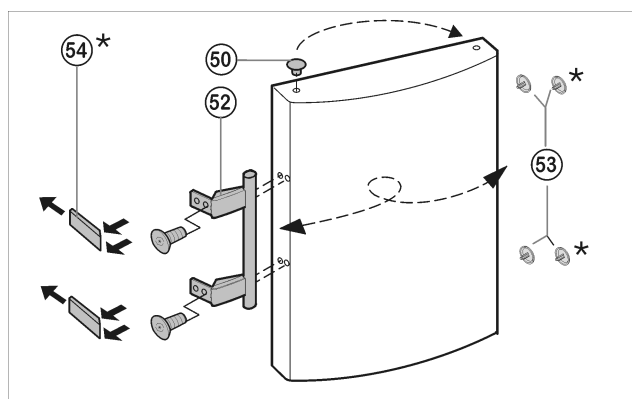

Fig. 13
- ▶ Pull plugs *Fig. 13 (50)* out of the door bearing bushes and move them to the other side.
- ▶ Detach the door handle *Fig. 13 (52)*, plug *Fig. 13 (53)* and pressure plates* *Fig. 13 (54)* and move them to the opposite side.